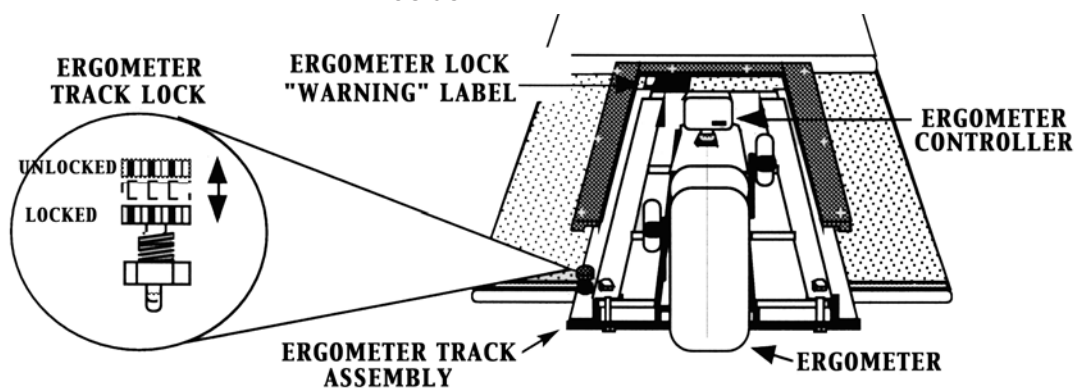

Figure 29
4	Lift up on the track lock knob located towards the back of the track assembly. While pulling up on the ergometer track lock, pull the entire track assembly away from the head of the bed a few inches to disengage the track lock from the receiver mounted on the bed surface. (see Figure 29)
- 3 Slowly push the entire track assembly towards the head of the bed aligned between the track restraint guides until the ergometer slide lock (see Figure 29) comes into contact with the back edge of the track base.
- 5 Inspect and test before using the ergometer. (see figures 29 & 30) The ergometer track lock should be fully engaged in the track lock receiver. No part of the red “warning label” should be visible.